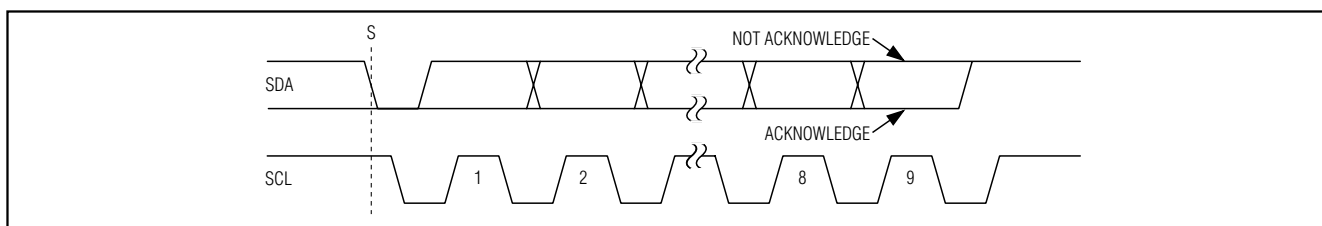

Figure 8. Acknowledge Bits
Successful data transfers are acknowledged with an acknowledge bit (A) or a not-acknowledge bit (\bar{A}). Both the master and the MAX1169 (slave) generate acknowledge bits. To generate an acknowledge, the receiving device must pull SDA low before the rising edge of the acknowledge-related clock pulse (ninth pulse) and keep it low during the high period of the clock pulse (Figure 8). To generate a not acknowledge, the receiver allows SDA to be pulled high before the rising edge of the acknowledge-related clock pulse and leaves it high during the high period of the clock pulse.